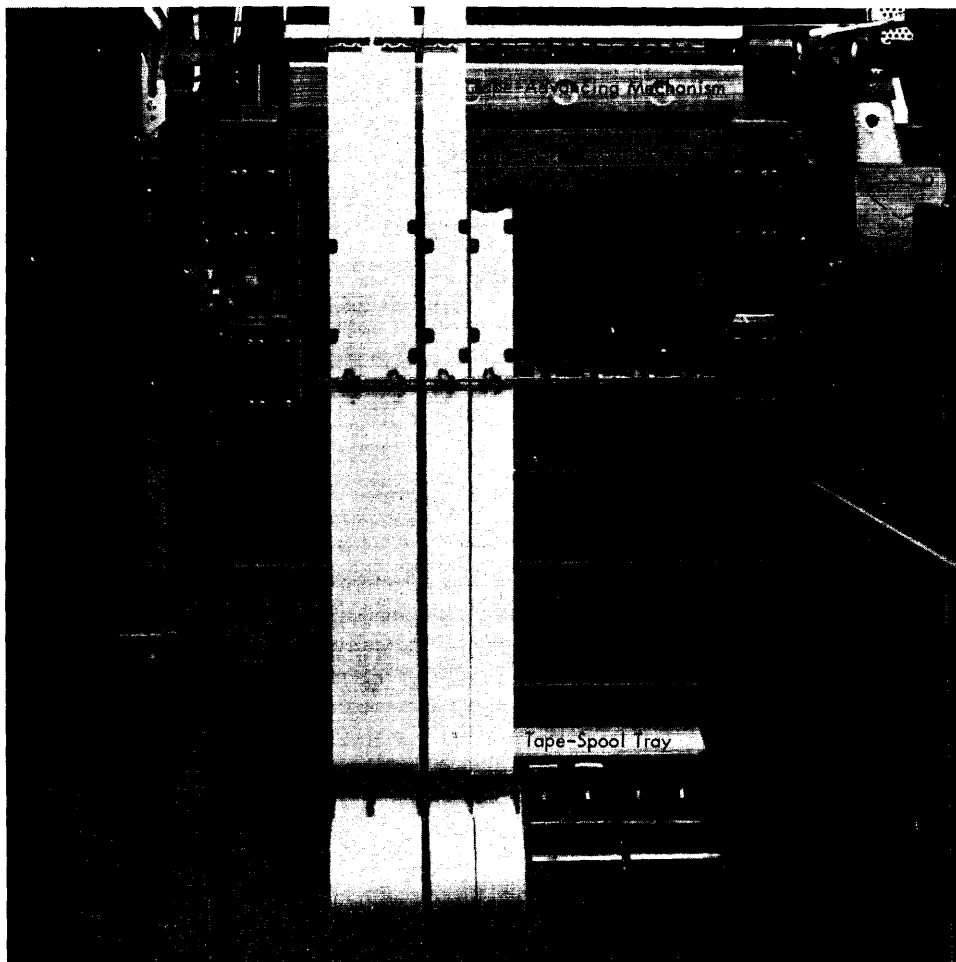

Figure 44. 1403 Model 1, 2, or 3 with Selective Tape Listing Feature
7. Thread the tapes through the tape-sensing switch guides, the paper-tension fingers, the lower paper guides, the upper paper guides, and the tape-advancing fingers and guides. Then, run the tape over the printer to the stacking device (Figure 44).